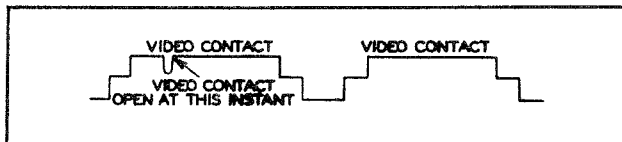

Figure 5-37. Antenna-Video Switch, Waveform Showing Defective Video Contact
(9) Chattering or defective contacts can easily be seen when using the oscilloscope for checking. Bad contacts will not always be apparent unless the switch is opening and closing at operating speed. For instance, if a video contact is chattering or breaking contact for an instant when it is supposed to be closed, the oscilloscope trace line will drop at the instant this video contact breaks, as shown in figure 5-37.